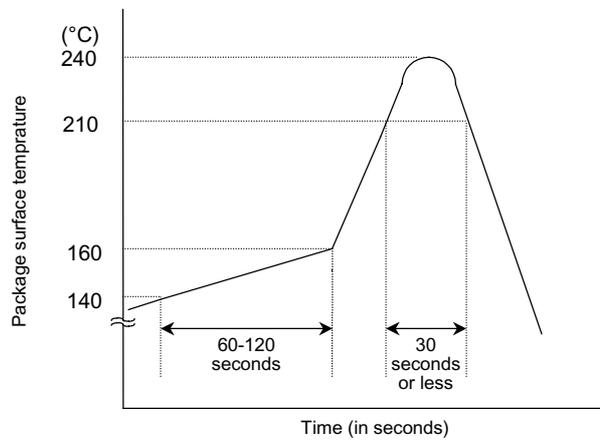

Figure 3.3 Sample Temperature Profile for Infrared or Hot Air Reflow
- Refer to Figure 3.3 for an example of a good temperature profile for infrared or hot air reflow.
- (3) Using hot air reflow
- For an example of a recommended temperature profile, refer to Figure 3.3 above.
- (4) Using solder flow (dipping)